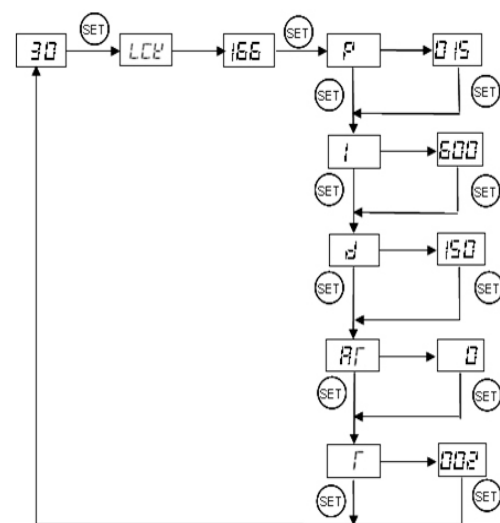

Figure 3. Code 166 parameter setup
To activate auto-tuning, just enter code 166 to get into the PID setting menu. Set AΓ to 1 then exit the menu (see **Figure 3**). The display will start to flash alternately between AΓ and current temperature, which indicates auto-tuning is in progress. When the display stops flashing, the auto-tuning is finished. Now, the newly calculated PID parameters are set and are used for the system. The new parameters will store in the memory even the power is off.
- LCK. Parameter lock. This function is used to prevent user to change the critical parameters by accident. User has to enter the code **166** to access the parameter setting menu (**Figure 3**).